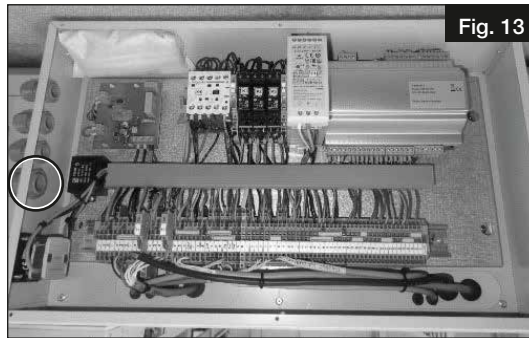

Fig. 13
3. Loosen the marked grommet and insert the cables (see Fig. 13).